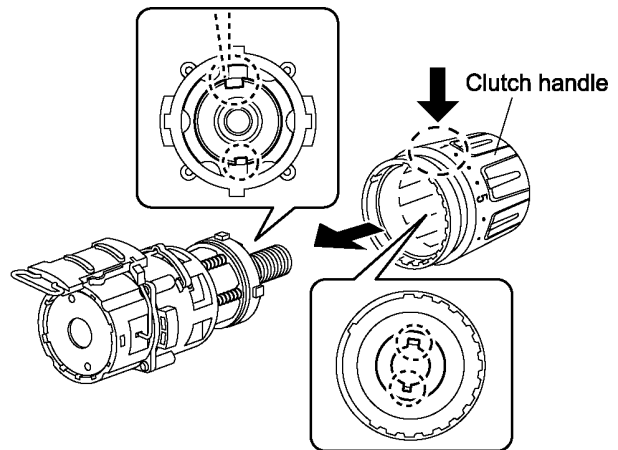

Fig. 14
4. Set the clutch handle with position 1 on top. (See Fig. 14)